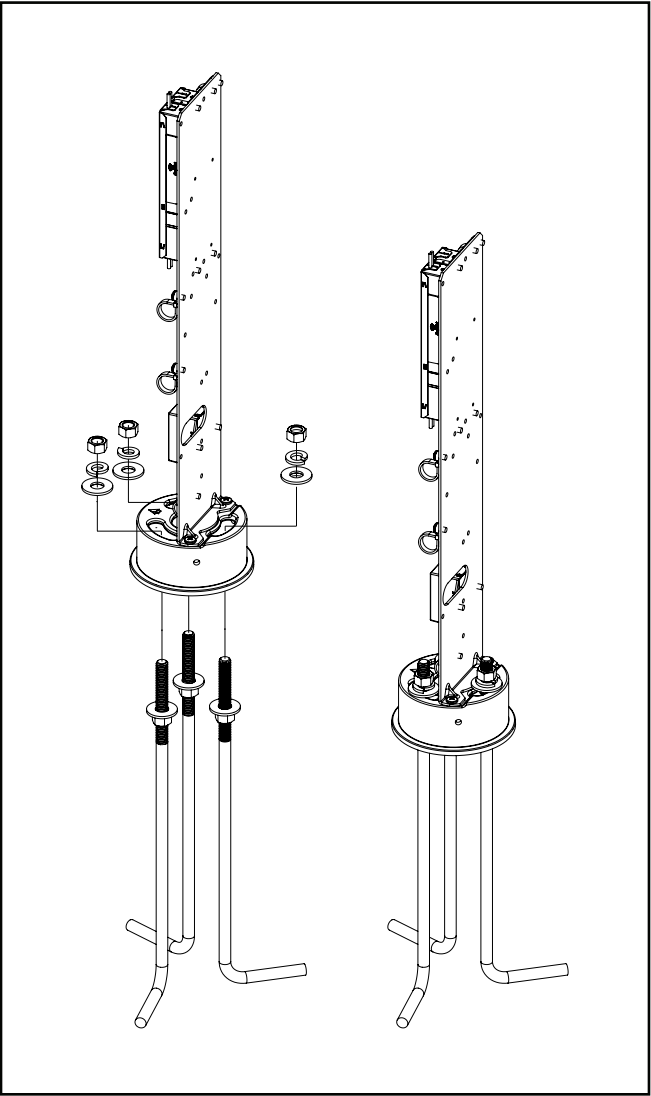

Figure 3.
8. Once the base assembly is leveled, ensure final orientation adjustments so that the arrow is pointing to Street Side. Add (1) washer, (1) lock washer, and (1) nut per anchor bolt and torque the upper nuts to 10 ft-lbs (14N-M) (Figure 3).